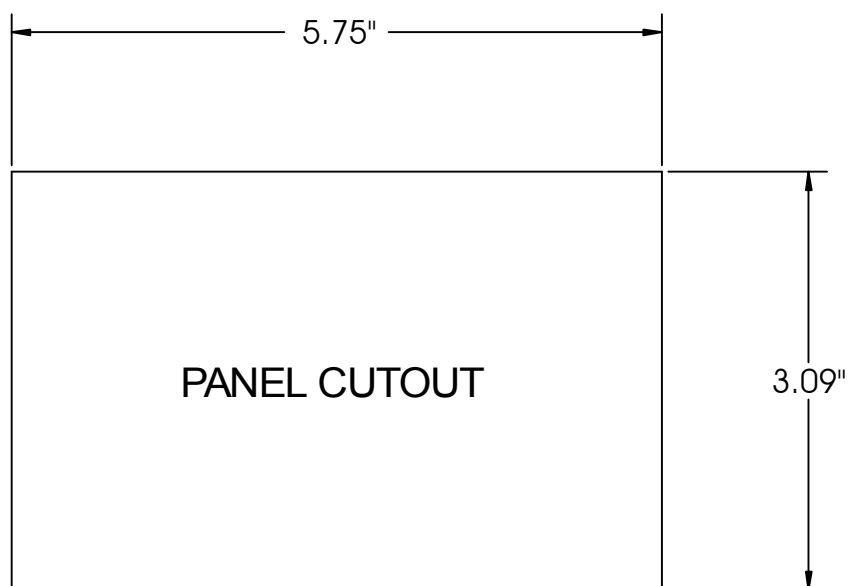

FIG. 3-2 PANEL CUTOUT DIMENSIONS
2. Dimensions of the enclosure cutout (See Fig. 3-2)
See Fig. 3-2 for information about the panel cutout.